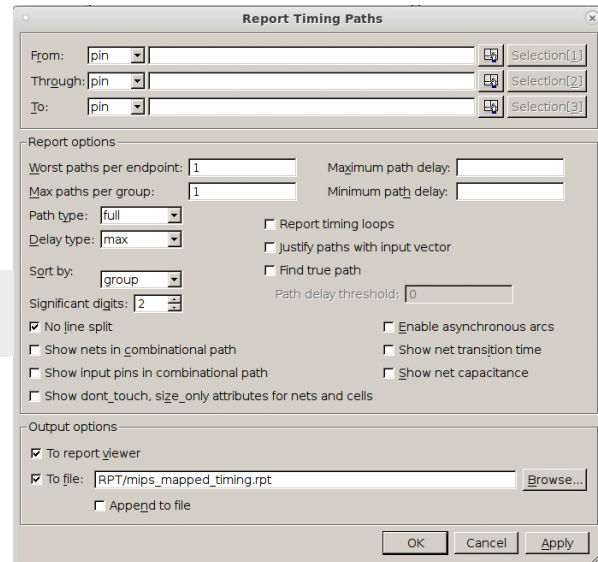

Figure 14: Reporting the critical path
2. Select the parameters as in Fig. 14.